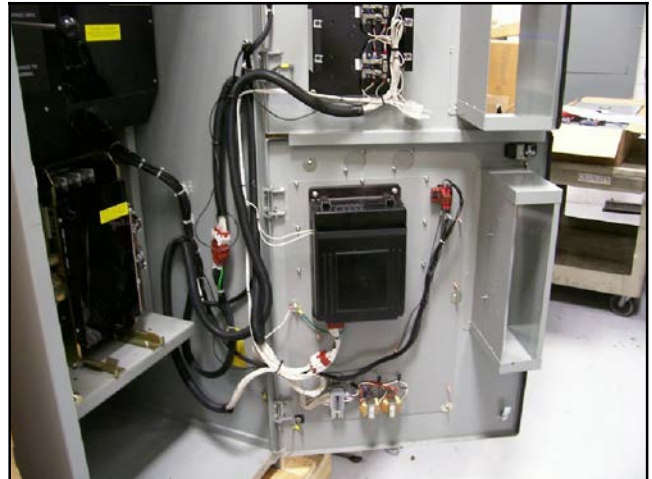

Figure 52 Harness Routing
47. Route the conversion kit wire harness appropriately using the cable ties provided. See Figure 52.